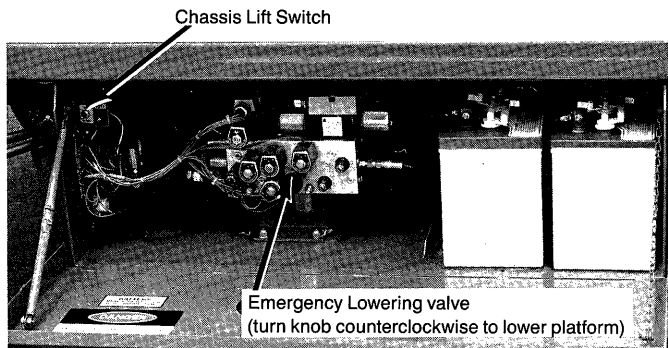

Figure 1. Power Module
15. Push chassis lift switch to "UP" position and fully elevate platform (Figure 1).
18. Lower platform partway by pushing chassis lift switch to "DOWN" (Figure 1).
21. Close emergency lowering valve (Figure 1).
2. Open valve by turning knob counterclockwise (Figure 1).